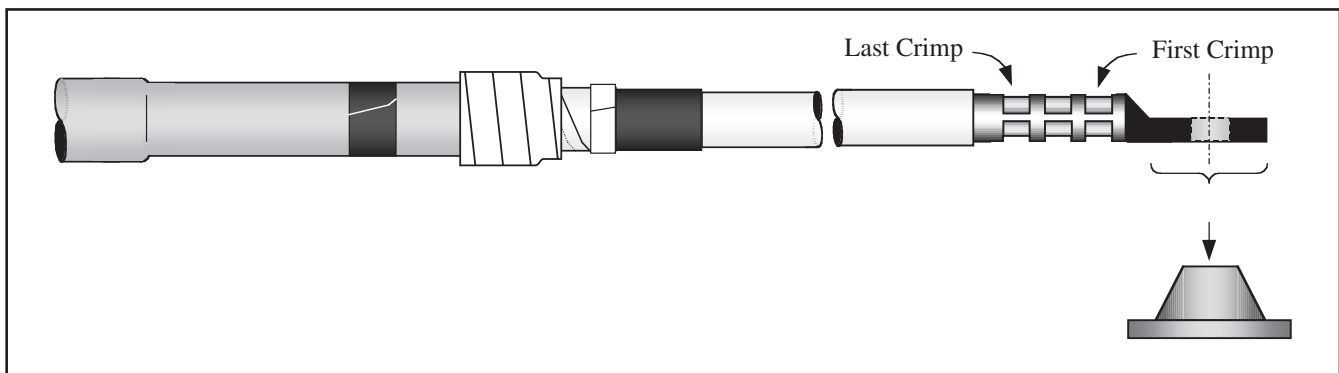

Figure 22
- Ensure that each lug face is parallel to equipment bushing or lug connection interface (Figure 22).**
- Crimp terminal lug according to manufacturer recommendations. Start at the upper end as shown (Figure 22). Remove all traces of oxide inhibitor that may have come out of lug barrel during crimping.